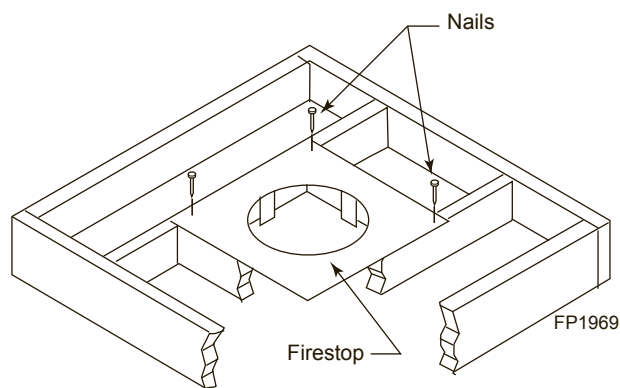
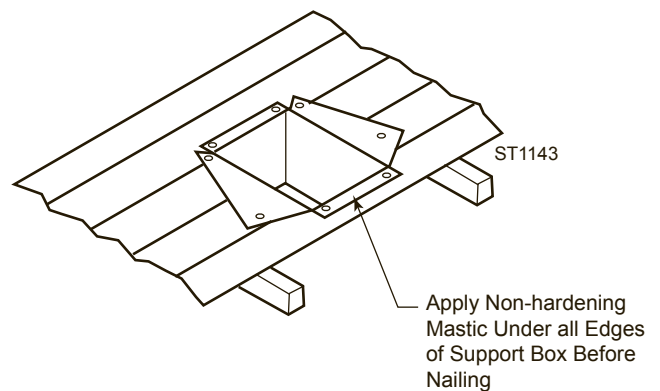

Figure 23 -
Figure 26 -
required clearance space. *Figure 23.* Otherwise, install firestop below the framed hole. The firestop should be installed with no less than three nails per side. *Figure 26*
4. Using tin snips, cut the support box from the top corners down to the roofline and fold the resulting flaps over the roof sheathing. *Figure 26.* Apply a bead of non-hardening mastic around the top edges of the support box to make a seal between the box and the roof. Nail in place with roofing nails. Remove any combustible material that might be inside the support box.